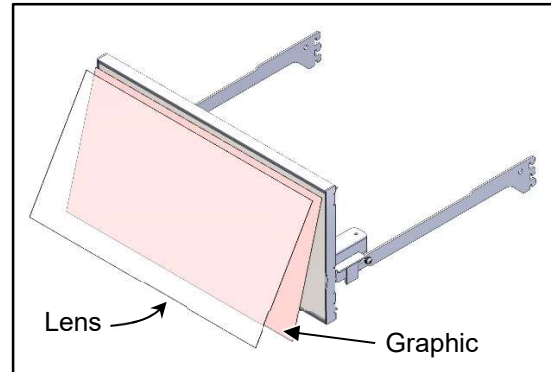

Figure 22
4. Insert the Graphic into the Sign. Insert the Lens over the top of the Graphic. Slide graphic and lens into top and bottom grooves. (See Figure 22).